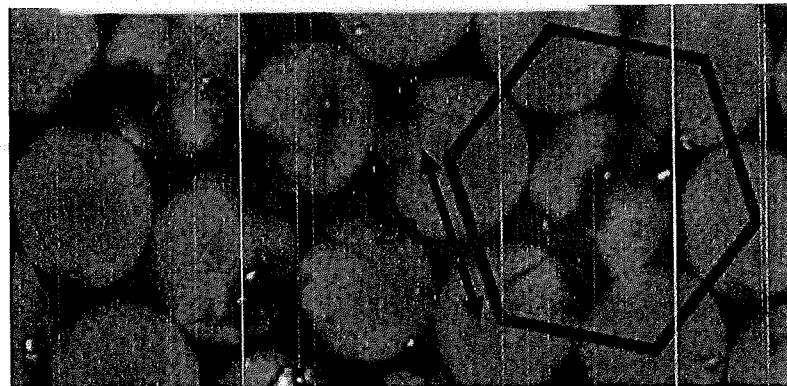

Figure 1 : SEM micrograph of a carbon fiber reinforced epoxy composite.
- (b). Figure 1 shows scanning electron microscope (SEM) micrograph of carbon fiber reinforced epoxy composite. In this image, bright circles are carbon fibers, which are approximately 14  $\mu\text{m}$  in diameter and the dark background is epoxy. Assuming that  $2R$  is the closest center-to-center spacing of the fibers, show that the fiber volume fraction is